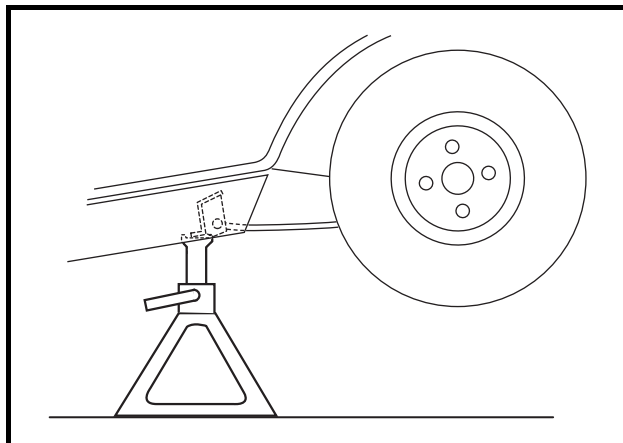

Figure 28-6 Vehicle Supported on Jack Stands
2. Place a floor jack under the transaxle and raise the rear of the vehicle. Position jack stands under the frame crossmember between the spring mount and the side stringer, just forward of each rear wheel. Lower the vehicle to let the jack stands support the vehicle (**Figure 28-6, Page 28-5**). See **WARNING “Lift only one end of the vehicle...”** in General Warning on page 1-1.